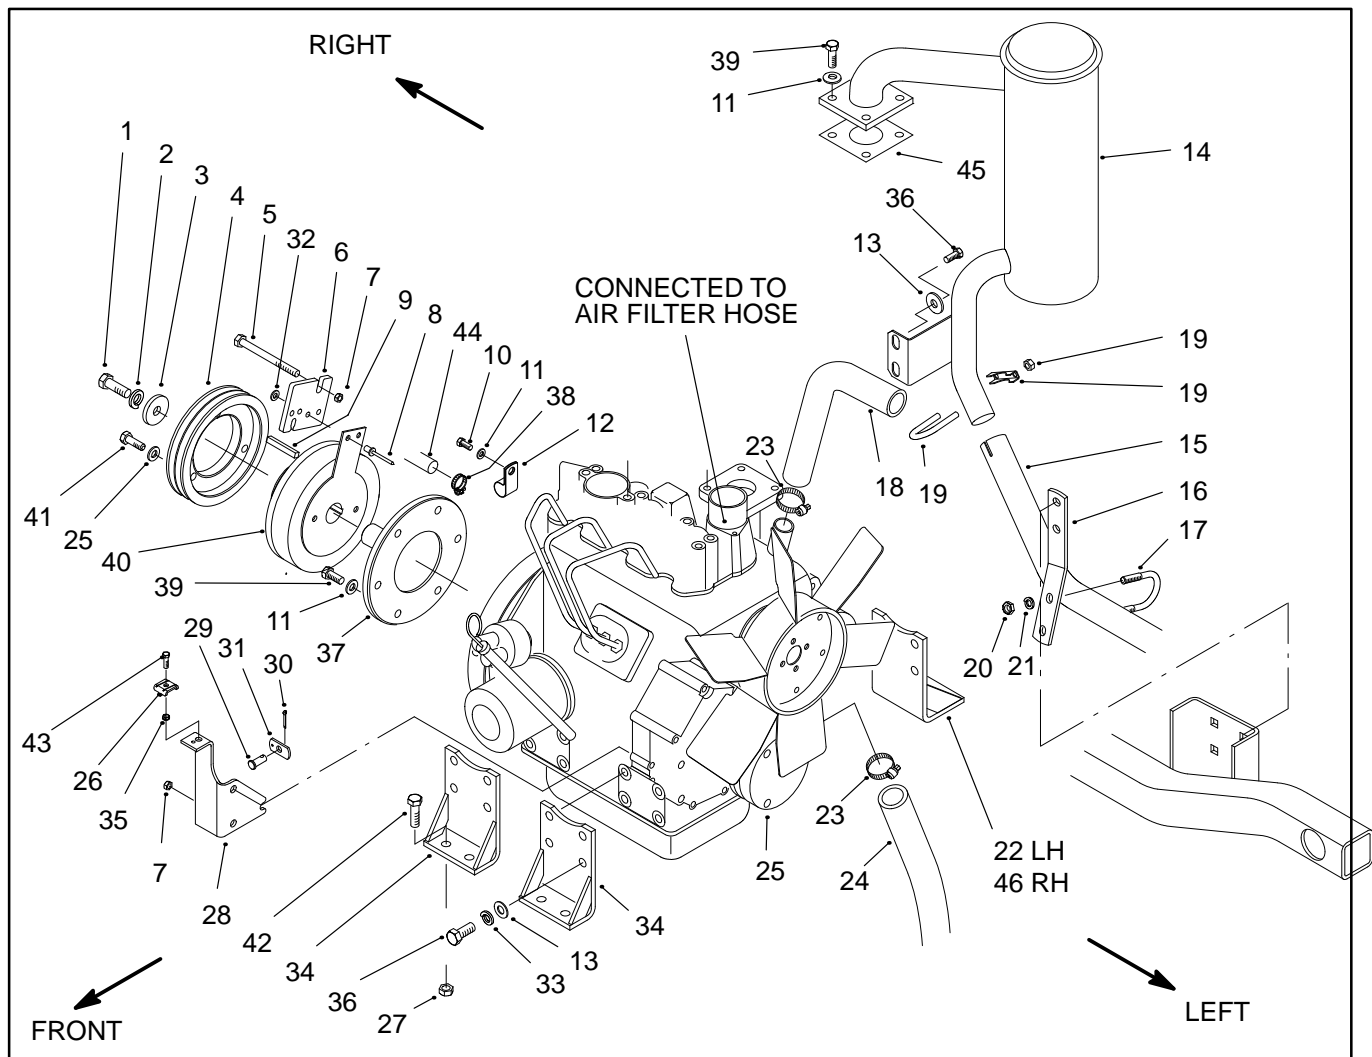

Figure 19
10. Disconnect hoses from engine (Fig. 19).
B. Loosen hose clamps (23). Disconnect upper radiator hose (18) and lower radiator hose (24) from the engine.
C. Loosen hose clamp (38) and disconnect fuel hose (44) from the lift pump. Plug hose to prevent leakage.
12. Remove exhaust system (Fig. 19).
A. Remove muffler clamp (19) from the muffler (14) and muffler tube (15).
B. Loosen nut (20) and U-clamp (17). Separate muffler tube from muffler and slide muffler tube through U-clamp.
C. Remove cap screws (36) and washers (13) from the muffler and right rear mount bracket (46).
D. Remove cap screws (39) and flat washers (11) from the muffler and exhaust manifold. Remove muffler and muffler gasket (53) from the engine.
13. Disconnect throttle cable (Fig. 19).
A. Loosen cap screw (43) enough to separate the throttle cable from the throttle cable clamp (30).
B. Remove cotter pin (30) from clevis pin (29). Remove clevis pin, throttle tab (31), and throttle cable from the engine governor lever.
14. Disconnect electrical connections (Fig. 19).
17. Remove engine (Fig. 19)
3. If mount brackets (22, 34, and 46) were removed re-install them as follows (Fig. 19):
- A. For front mount brackets (34), secure brackets to the engine (25) with cap screws (36), lock washers (33) and washers (13). Torque cap screws from 34 to 42 ft–lb (4.7 to 5.8 kg–m).
- B. For left rear mount bracket (22), secure bracket to the engine (25) with two cap screws (36), lock washers (33) and washers (13) through the left holes. Leave the right holes open for the muffler. Torque cap screws from 34 to 42 ft–lb (4.7 to 5.8 kg–m).
- C. For right rear mount bracket (46), secure brackets to the engine (25) with cap screws (36), lock washers (33) and washers (13). **Leave cap screws loose enough so that the position of the bracket can be adjusted after the engine is installed.**